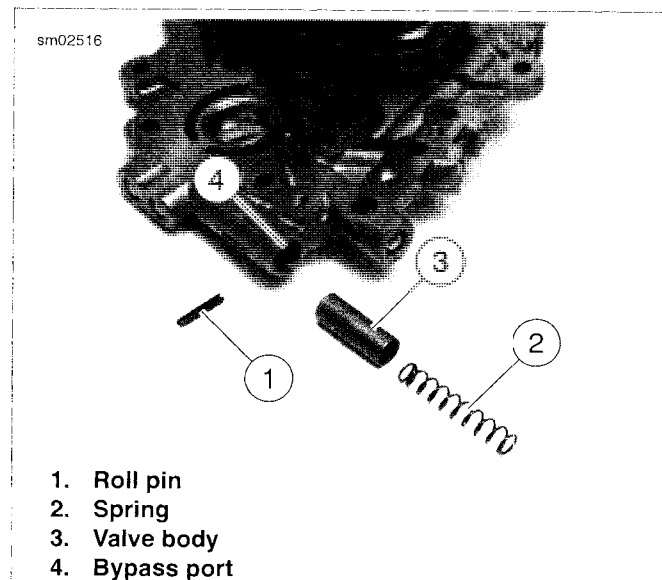

Figure 3-130. Oil Pressure Relief Valve Assembly
3. See Figure 3-130. Using a 1/8 in. punch with a small hammer, carefully tap roll pin (1) from pin hole in cam support plate. Discard roll pin.
4. Remove spring (2) and valve body (3) from bypass port.
2. See Figure 3-130. Lubricate valve body (3) with clean H-D 20W50 engine oil. Slide valve body into bypass port of cam support plate with the open side facing outward.
3. Slide spring (2) into bypass port until seated in open side of valve body.
4. Start **new** roll pin (1) into hole in cam support plate. Compress spring in port using the blade of a small screwdriver.